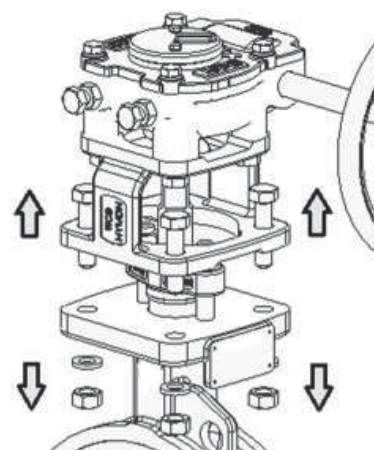

Figure 4.2 Yoke disassembly
1. For valves with yoke, remove the yoke bolts and spring washers, and then remove the yoke; for valves with actuators, loosen the yoke screws and straightly remove the whole set of actuator and yoke as Fig. 4.2.